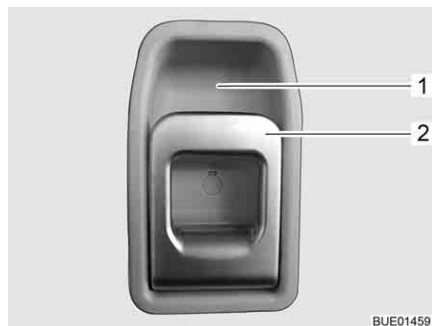

Fig. 60 Door lock of conversion door, inside
- Pull on the handle (Fig. 60,2). The door lock is unlatched.
- Press the upper part of the handle (Fig. 60,2) in the direction of the recessed handle (Fig. 60,1).